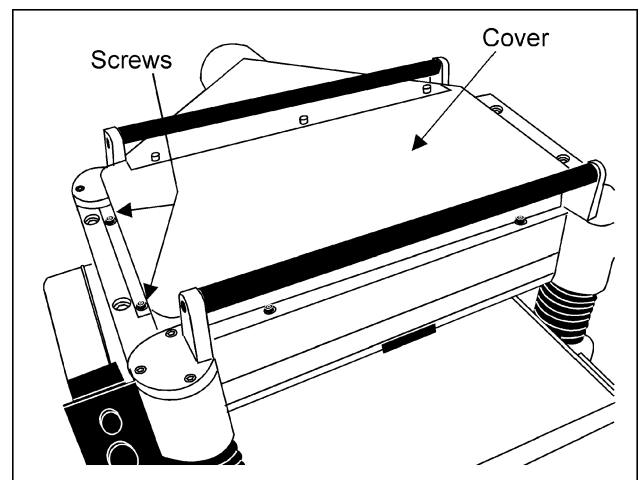

Fig. 17
2. Remove the six screws and upper cover (Fig. 17).
2. Remove six screws and upper cover (see Fig. 17).